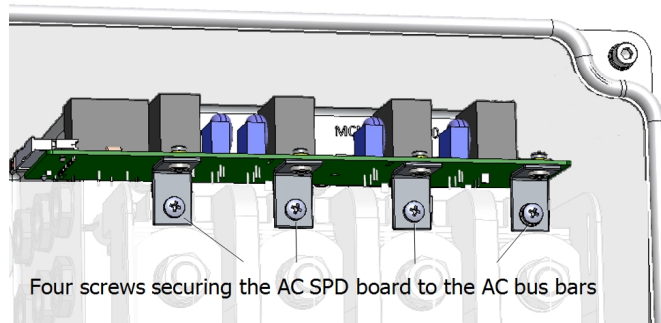

Figure 3: Disconnecting the AC SPD Board from the AC Conductors
3. Remove the four screws securing the AC SPD Board to the AC bus-bars and slightly pull out the AC SPD Board from within the enclosure (see *Figure 3*).
3. Position the provided AC SPD Board on the AC conductors and fasten the four screws with a torque of 2.6 N*m (1.91 lb*ft). (see *Figure 3*)